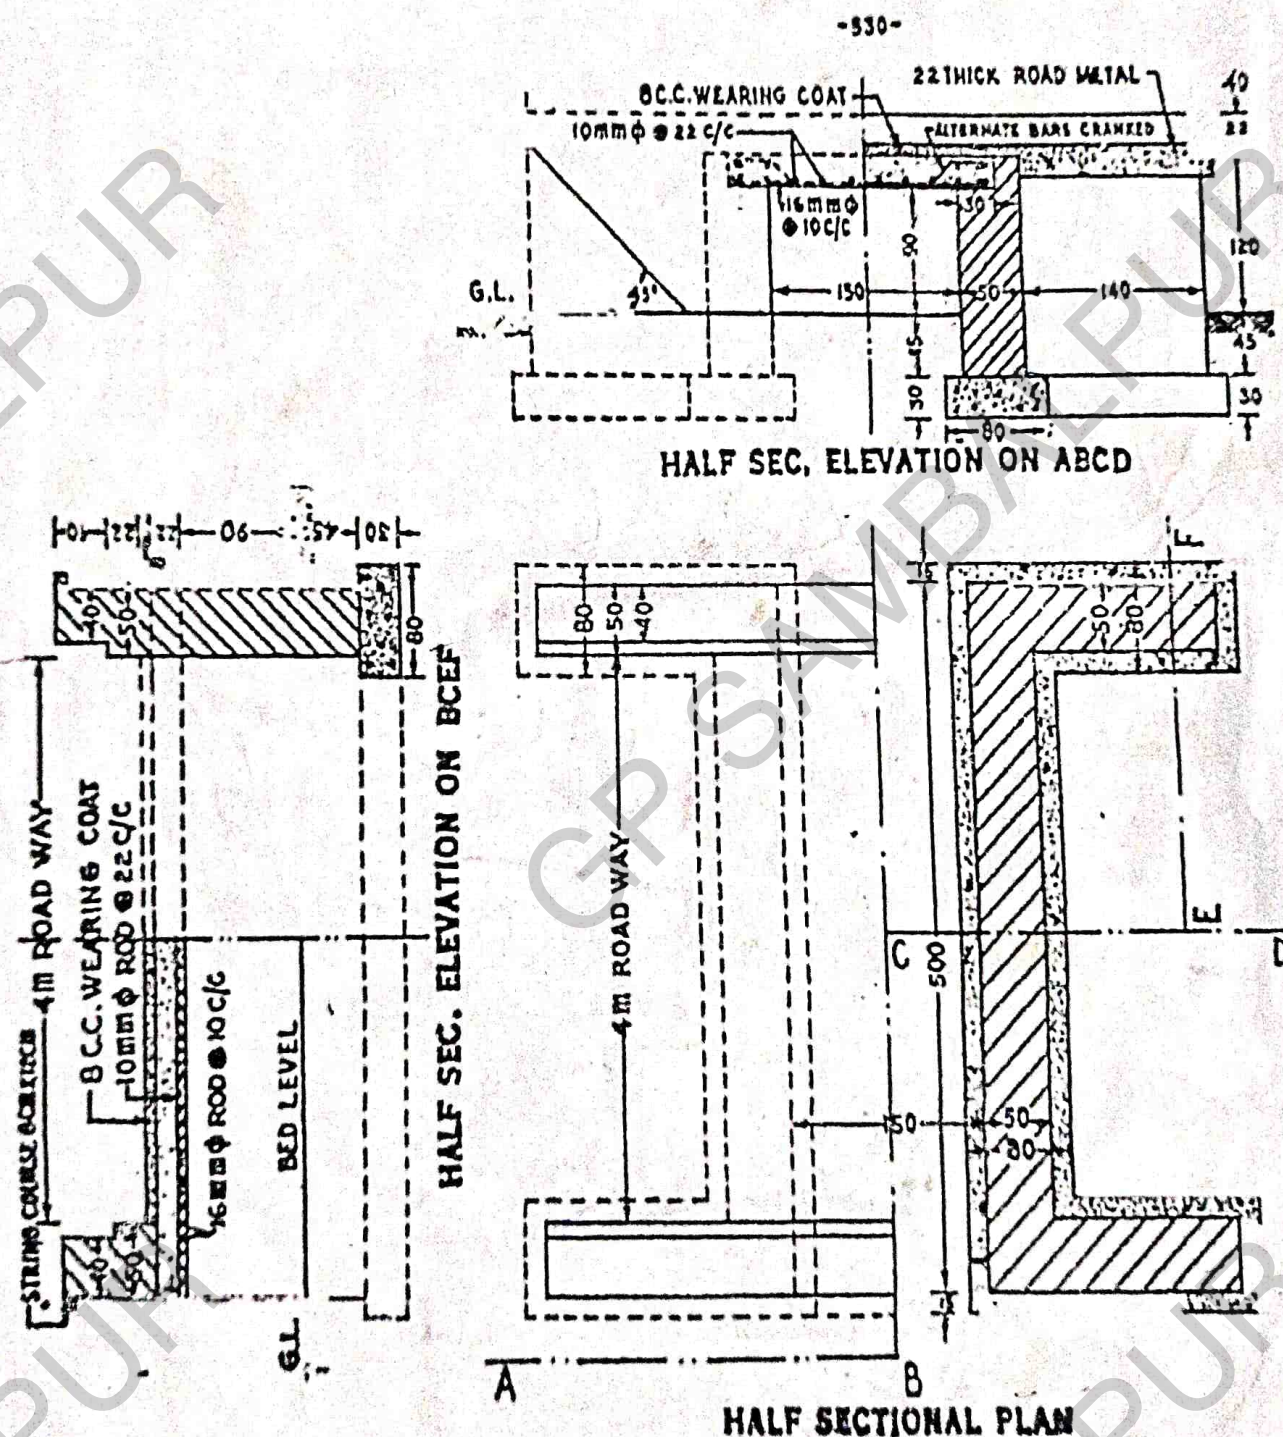

FIG. 8.15
8-15. Estimate of a simple Slab Gully—Prepare a quantity survey for a gully of 1.5m clear span and 4m road way as shown in the fig. 8-15.
* Prepare detailed estimate for a slab culverts of 1.5m clear span and 4m roadway as shown in figure 8.15.